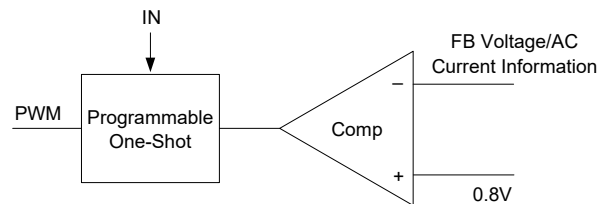

Figure 2. Simplified Control Schematic of AOZ2151QI-01
The control algorithm of AOZ2151QI-01 is constant-on-time PWM control with input feed-forward. The simplified control schematic is shown in Figure 2. The high-side switch on-time is determined solely by a one-shot whose pulse width is inversely proportional to input voltage (IN). The one-shot is triggered when the internal 0.8V is higher than the combined information of FB voltage and the AC current information of inductor, which is processed and obtained through the sensed lower-side MOSFET current once it turns-on. The added AC current information can help the stability of constant-on time control even with pure ceramic output capacitors, which have very low ESR. The AC current information has no DC offset, which does not cause offset with output load change, which is fundamentally different from other V^2 constant-on time control schemes.